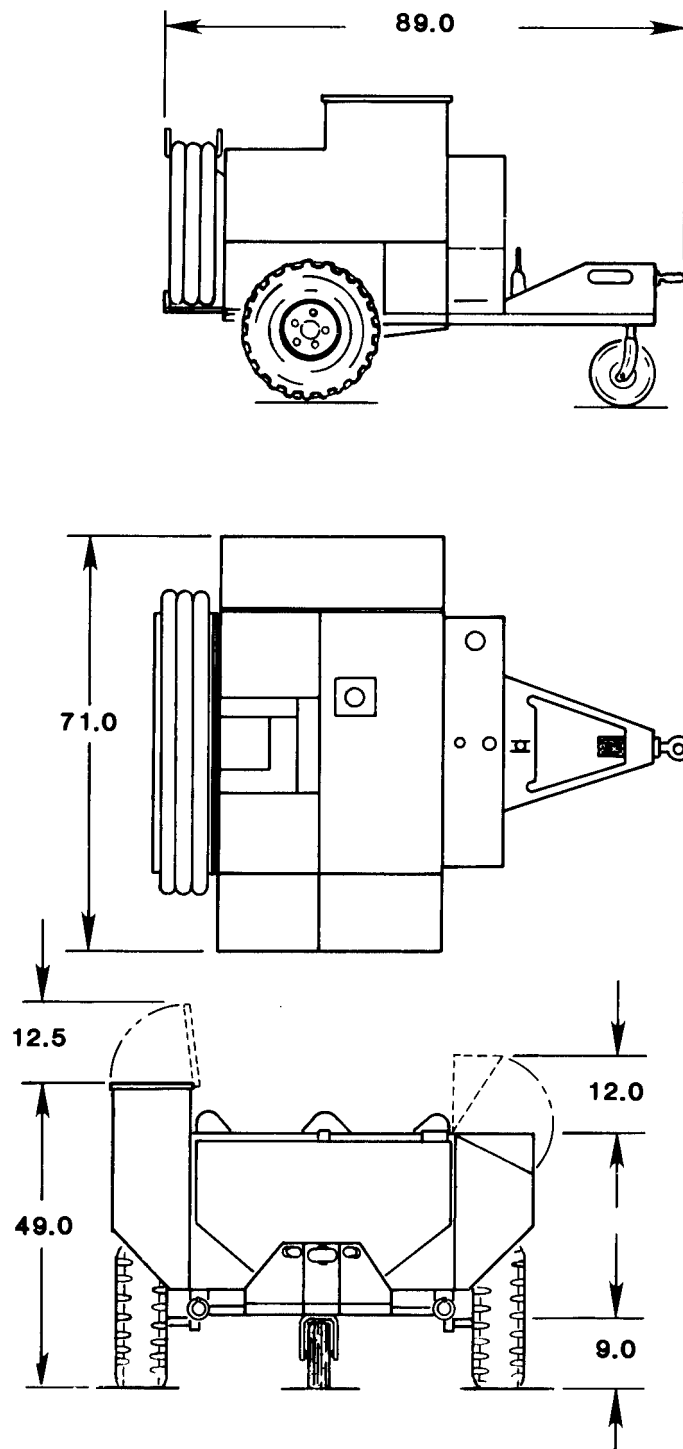
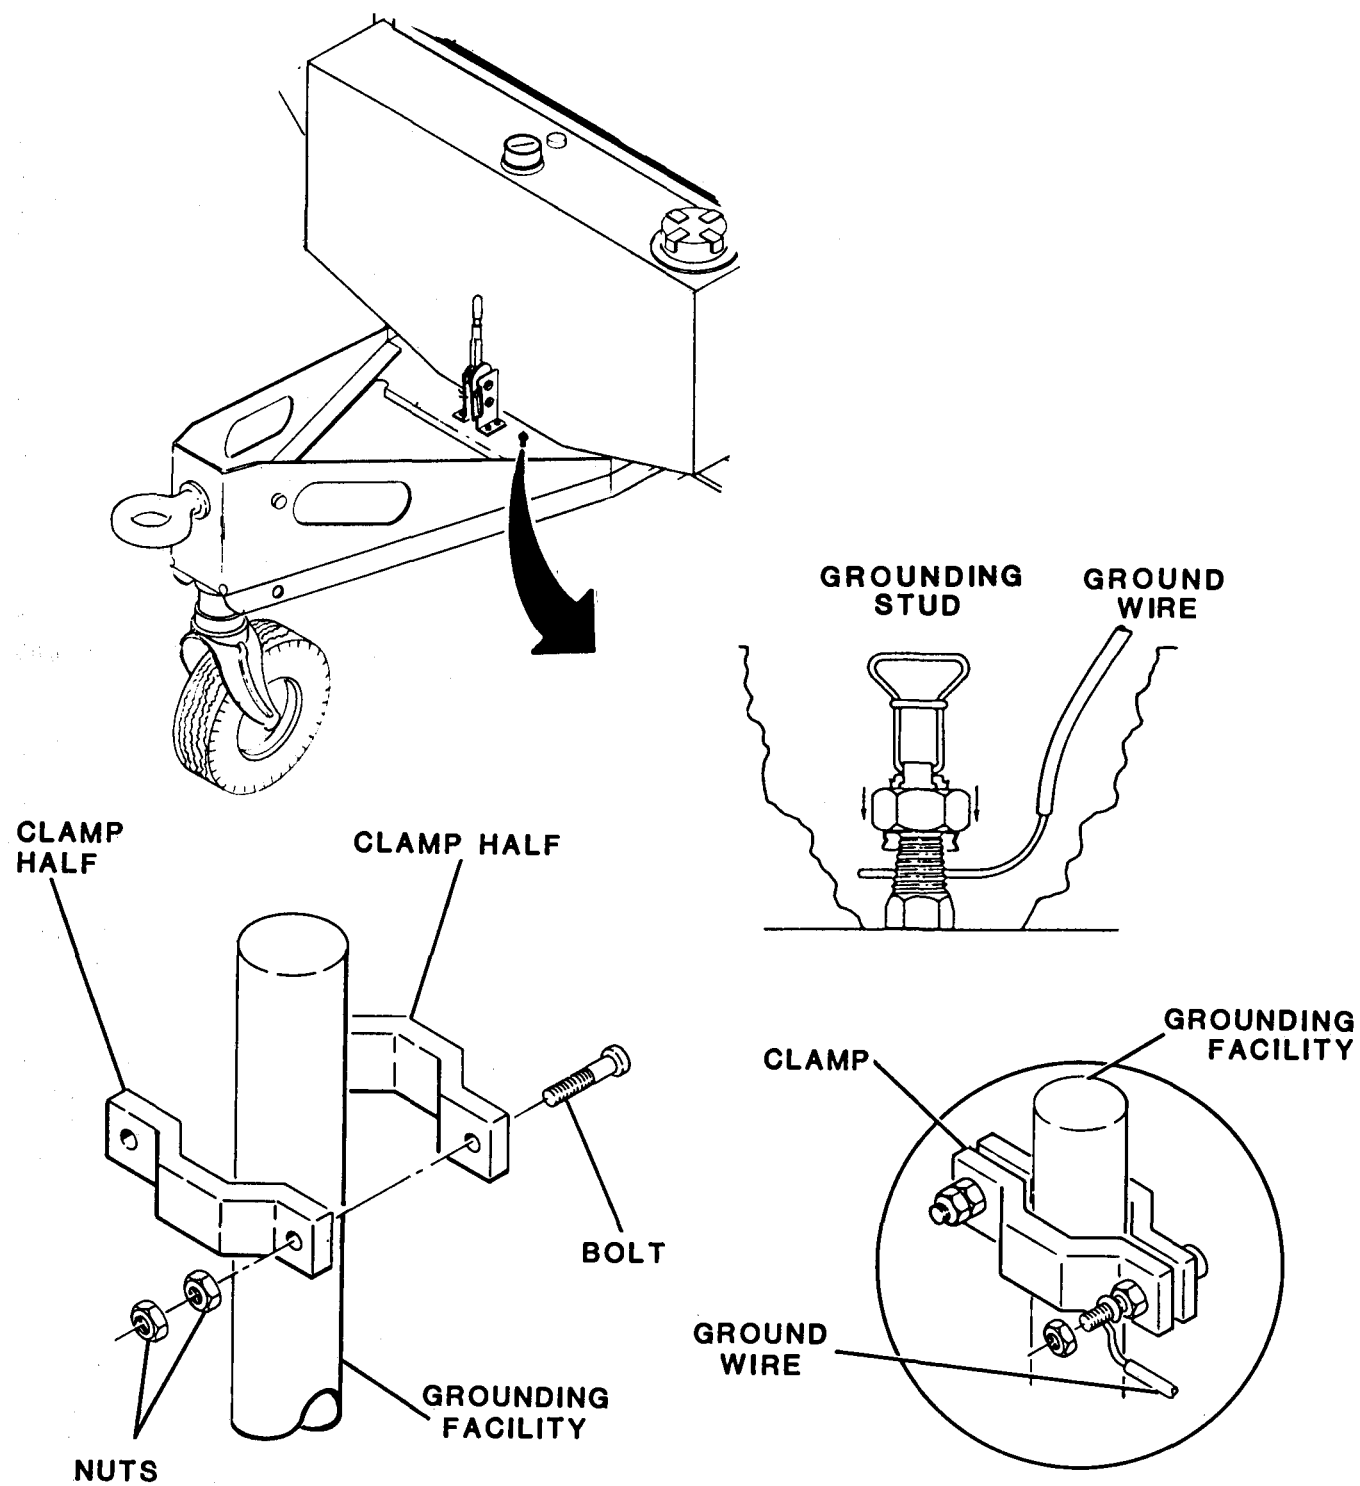

Figure 4-2. Installation Clearances
Figure 4-3. Grounding the Generator Set.
a. General. Installation procedures include positioning the generator set on a level surface in a well-ventilated area and setting the handbrake. Select a site that allows for the clearances shown in figure 4-2, plus working room. Additionally, the generator set should be within easy access of an approved grounding facility. Approved grounding facilities can be attained using either of the procedures described in the following paragraph. See figure 4-3.
(2) Attach ground rod (figure 4-3) to ground cable by stripping 1 inch (25 mm) of insulation, if any, from ground cable. Insert stripped end of cable in clamp enough to insure a good electrical bond.